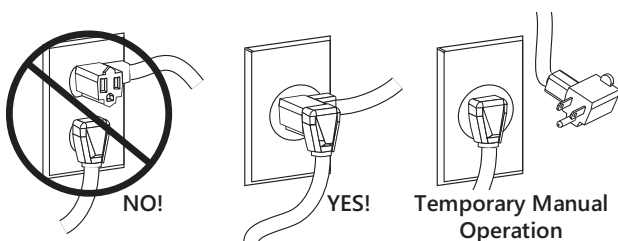

Figure 11. Piggyback Switch Operation
**All Pro370 and vertical discharge Pro380-Series models** come factory-equipped with the float switch mounted on the QuickTree assembly. These models come with two cords—one to the float switch and the other to the pump motor. The switch cord has a series (piggyback) plug enabling the pump (motor) cord to be plugged into the back of it (Figure 11). The purpose of this design is to allow manual operation of the pump.